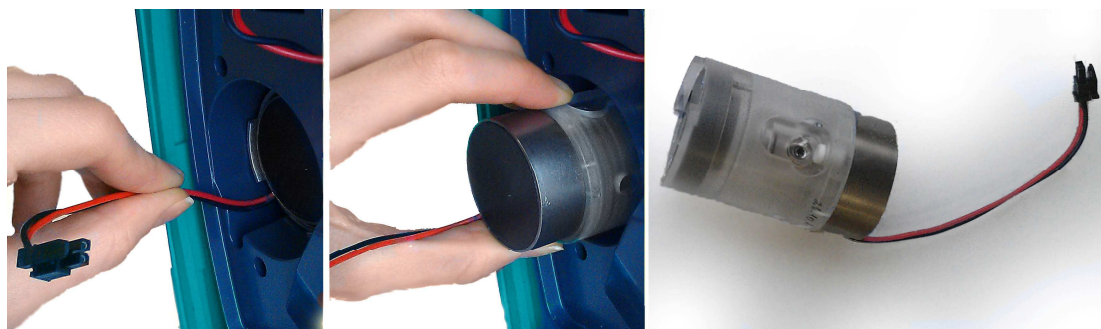

Fig. 2-22 – Removing the mercury lamp
- Slightly pull the power wire of the lamp and while holding its body, remove the lamp and insert a new one instead (see Fig. 2-22);